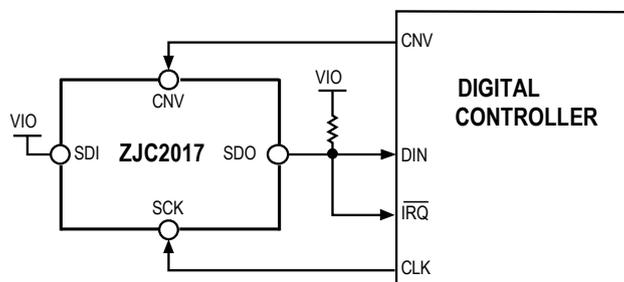
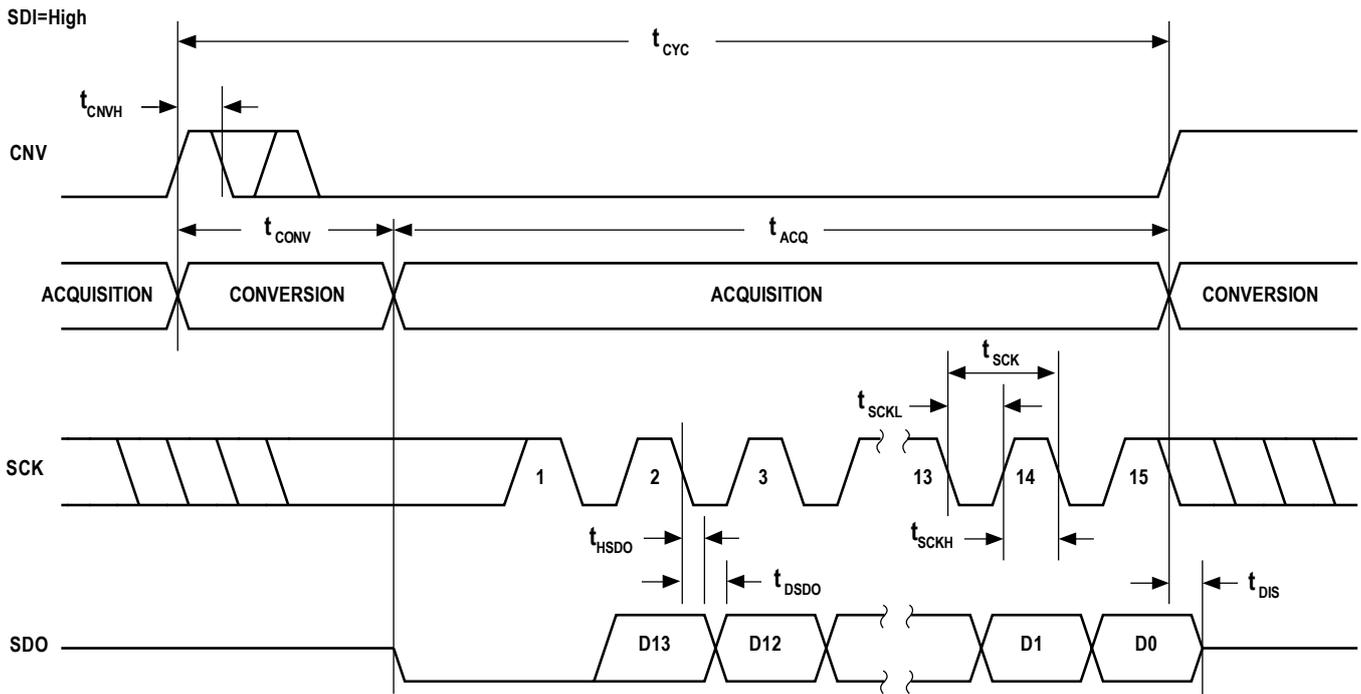
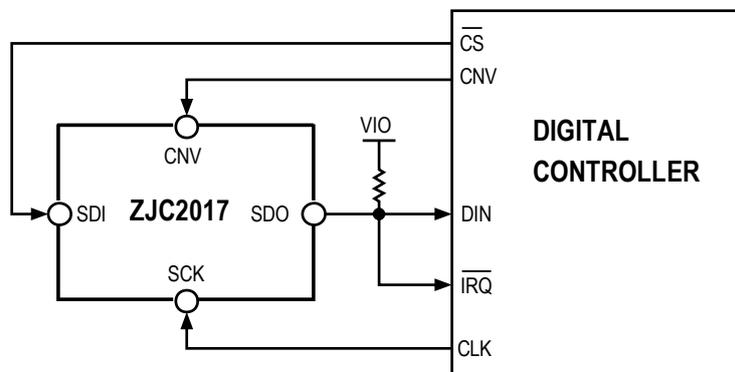
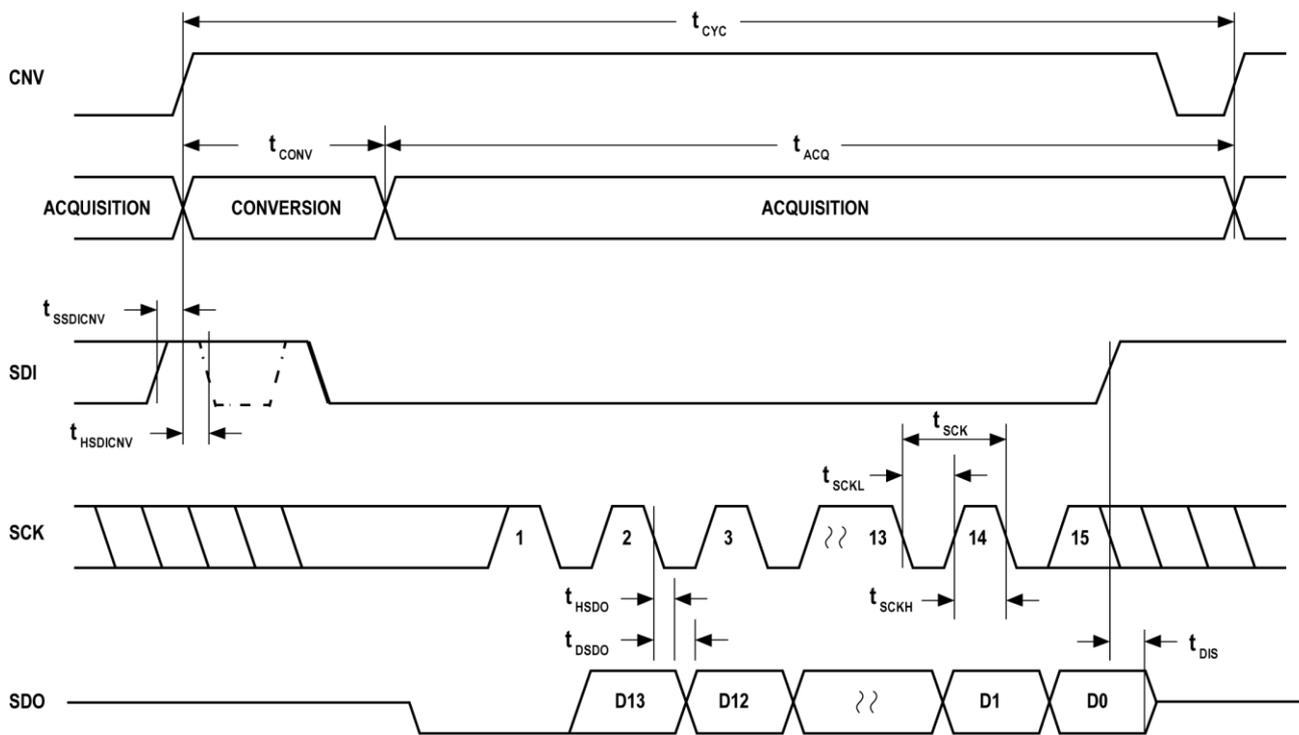

Figure 38. Chip Select Mode (three-wire type with busy indication) Connection Diagram
Figure 39. \overline{CS} Mode (3-Wire with Busy Indication) Serial Interface Timing
Figure 42. \overline{CS} Mode (4-Wire with Busy Indication) Connection Diagram
Figure 43. \overline{CS} Mode (4-wire with Busy Indication) Serial Interface Timing
- In $\overline{\text{CS}}$ mode, CNV or SDI is low at the end of ADC conversion (see Figure 39 and Figure 43).
This mode can be used when a single ZJC2017 is connected to an SPI-compatible digital host with an interrupt input. The connections are shown in Figure 38 and the corresponding timing is shown in Figure 39.
The connection is shown in Figure 42 and the corresponding timing is shown in Figure 43.